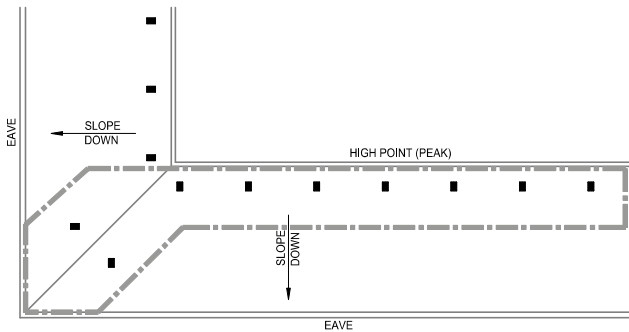

FIGURE 27A
- Calculate the 7 most hydraulically demanding contiguous DS sprinklers located along the high point plus the 2 most demanding sprinklers along the hip line. See Figure 27A.